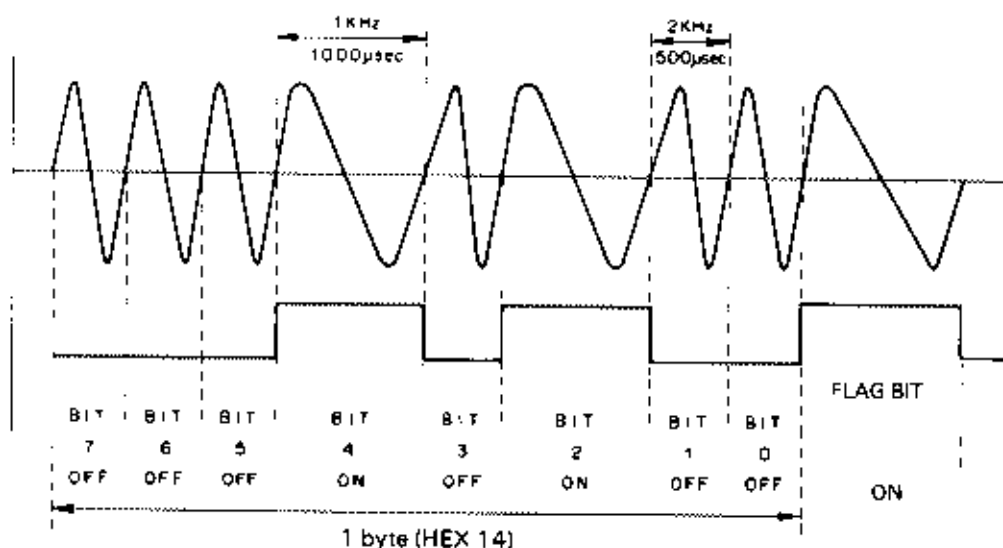

Fig. 3-18 Sample Write Signal Waveform
* The flag bit is also written for each data byte and the write signal appears as shown in Fig. 3-18.